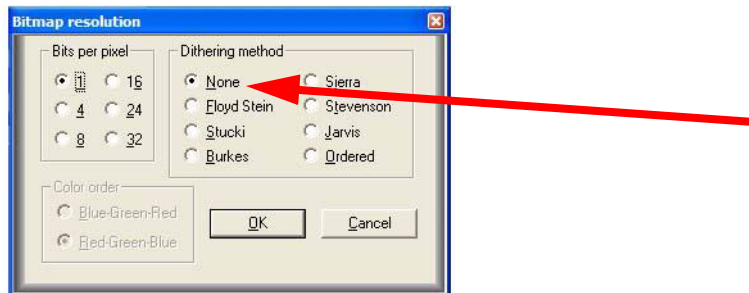

Figure 112
- 3 Working step-by-step, bring the settings down to **1** (bits per pixel) and **None** (Dithering method). Here's how to do it with the example shown in figure 112.